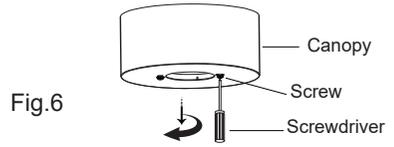

Fig.6
Step 1 Loosen the screws on the canopy clockwise with a screwdriver and remove the hanger.(Fig.6)